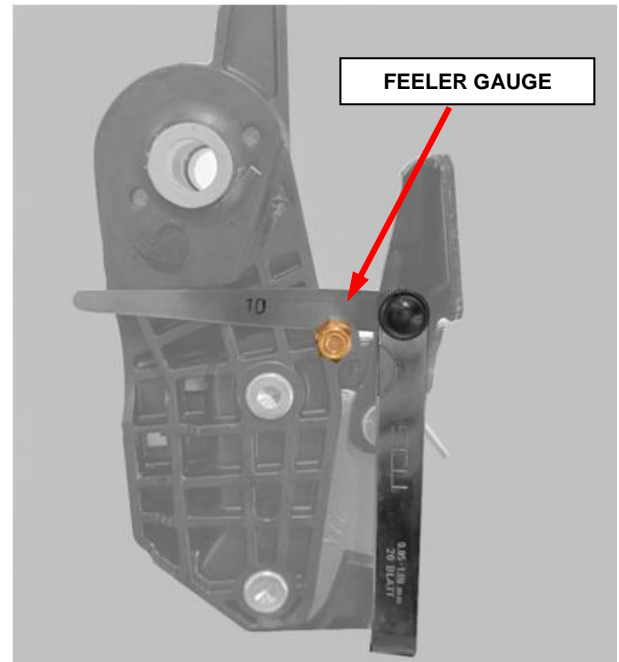

Figure 3 – Feeler Gauge
6. Tighten the nut using a 1mm feeler gauge as shown (Figure 3).